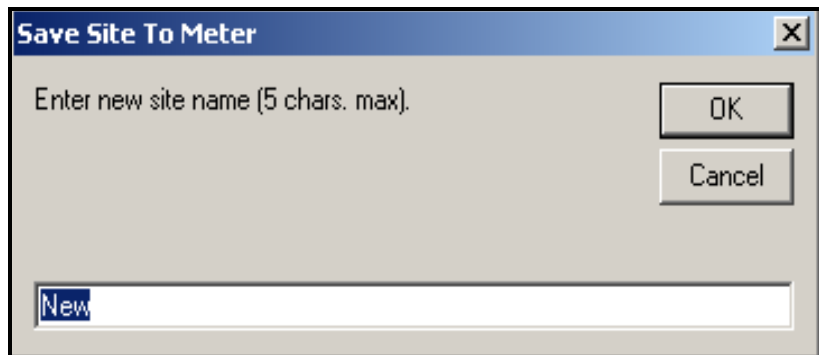

Figure C-19: Site Name Entry Window
2. A window opens similar to Figure C-19 below. Enter the desired name, and click [OK].